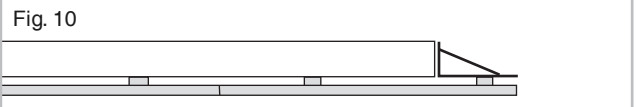

Fig. 10
- In case the last section of rack partially comes out from the rack edge, do not cut it. Add a bracket as a gate extension to support the last bit of rack (Fig.10).